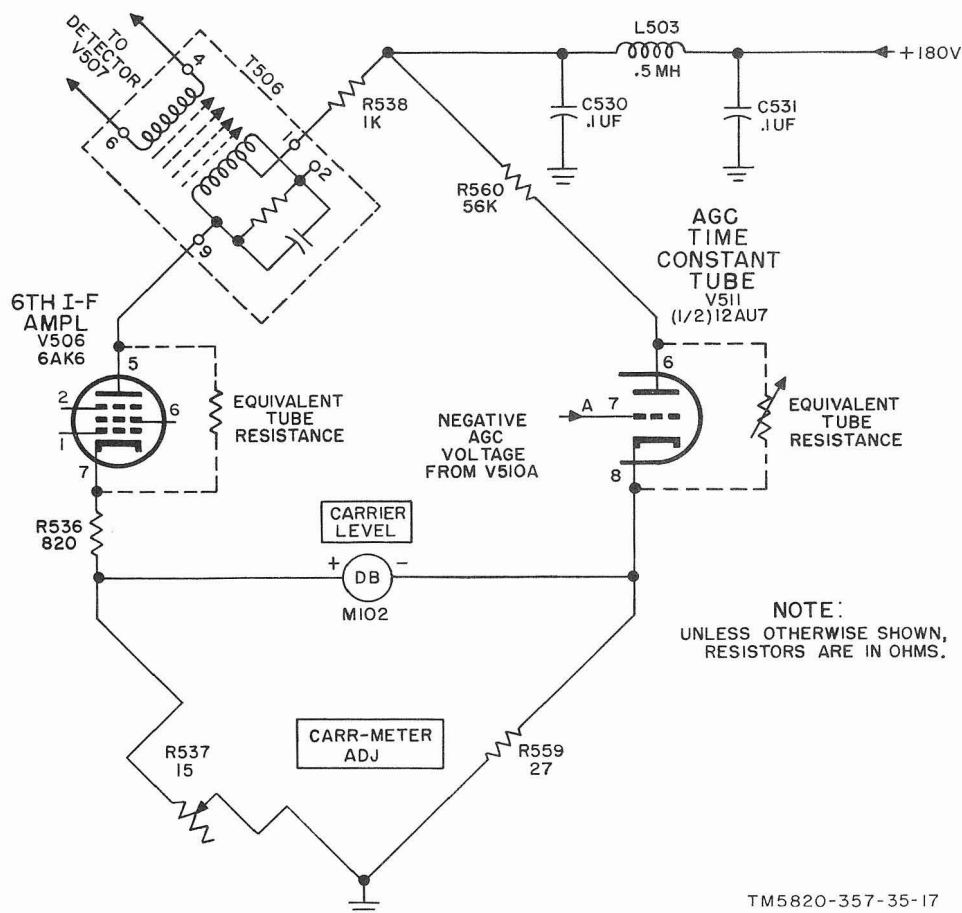

Figure 10. CARRIER LEVEL meter circuit, simplified schematic diagram.
## 22. Agc and CARRIER LEVEL Meter Circuits V509, V510, and V511 (fig. 10 and 62)
e. *CARRIER LEVEL Meter Circuit* (fig. 10 and 62). CARRIER LEVEL meter M102 indicates the *relative* strength of a received rf signal. Sixth if. amplifier V504, agc time constant tube V511A, and their circuit components form a bridge circuit. Meter M102 indicates the bridge unbalance.
- (1) The resistors drawn in parallel with the tubes in figure 10 show that V506 appears as a constant resistance in the bridge circuit and that V511A is the